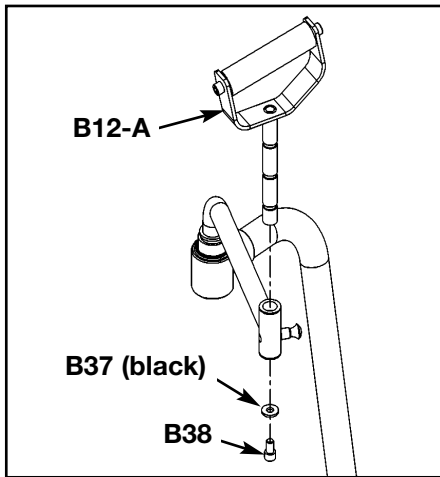

Figure 12A
**7. Install handles** (see steps 7A - 7C, Figures 12A and 12B).
- B.** Install handle (#B12-A - without bumper) on user position right side using one black flat washer (#B37) and one SHCS .375-16 x .625 (#B38) as shown in Figure 12A.